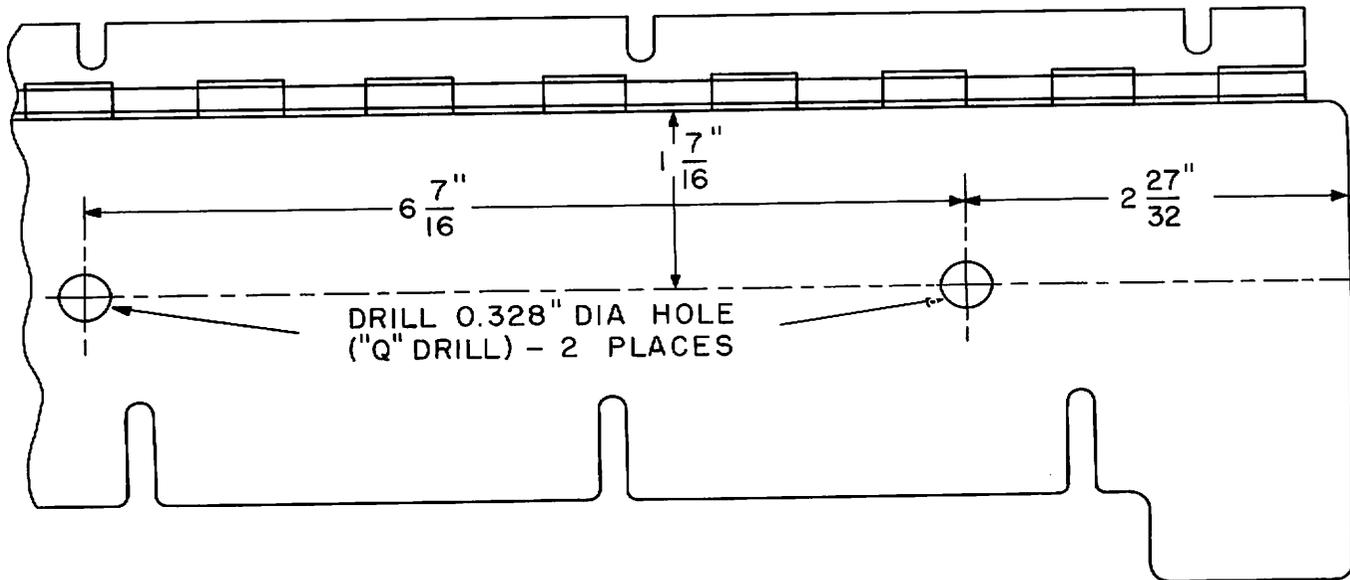

Figure 1 - 15 Teletypewriter Cover - Layout of Holes
(1) The 15 teletypewriter cover on which the paper winder is to be mounted should be drilled in accordance with Figure 1.
(4) Withdraw the platen shaft and remove the platen.